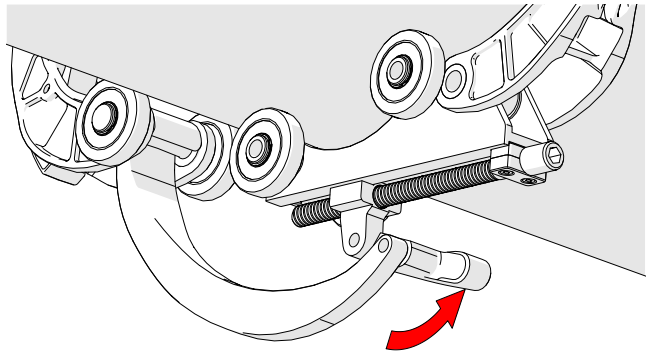

Fig. 93 - Press down to lock
8. Rotate the knob until the QuickLink Buckle's lever can be pushed down, locking the QuickLink Buckle in place (Fig. 93).